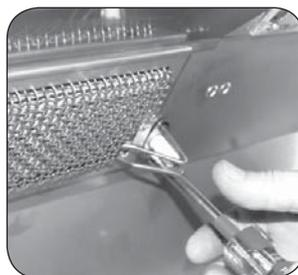
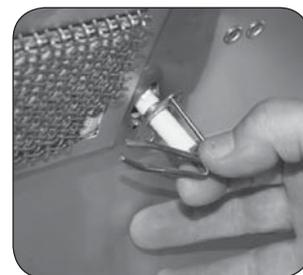

Fig. 32-3
Fig. 32-4
- Remove the backburner electrode mounting screw (1/4" hex) (see Fig. 32-3) and loosen the electrode. Carefully pull the electrode assembly slightly from the grill wall to give enough clearance for the backburner to be removed (see Fig. 32-4).